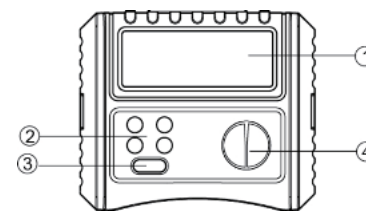

Figure 1
- Power: Alkaline battery 1.5V (AA) ×8pcs
- Accessories: Test leads, alkaline battery 1.5V (AA) ×8pcs, operating manual, carrying bag
V. Tester Description (See Figure 1&2)